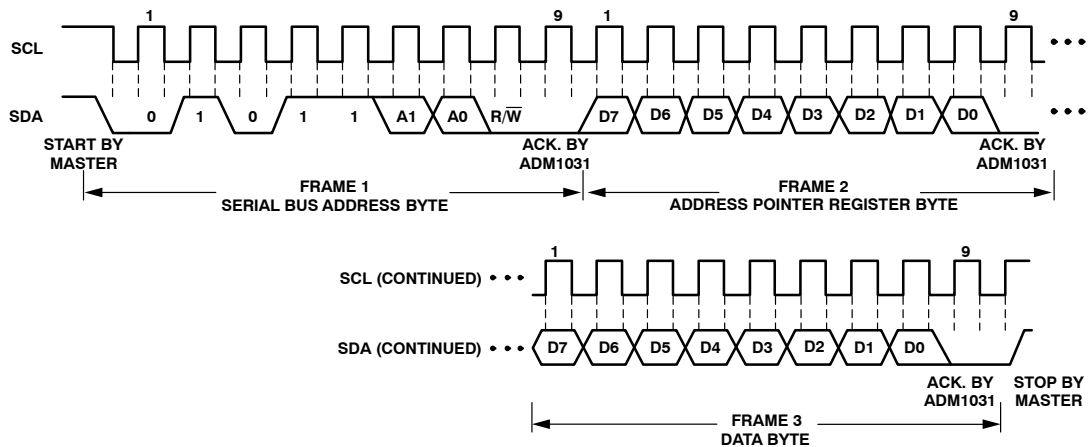
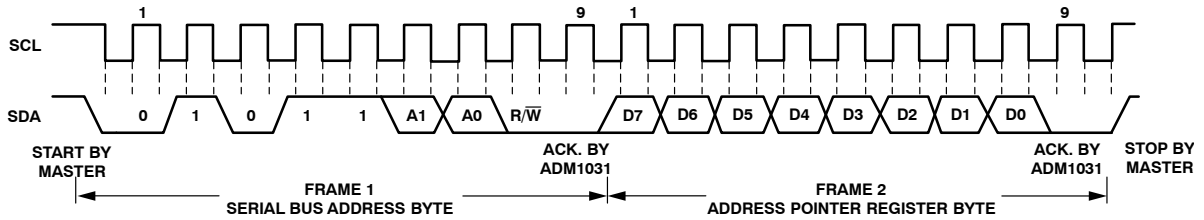
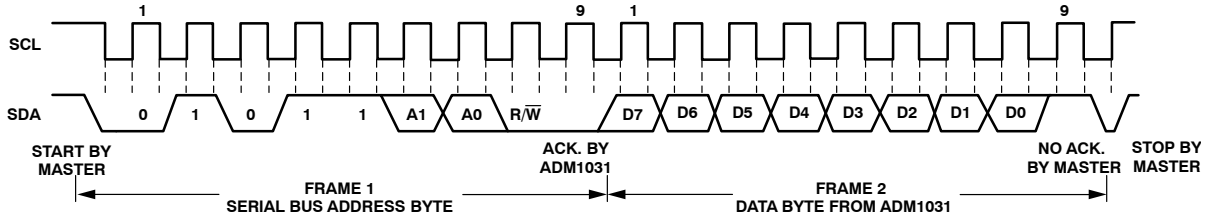

Figure 15. Writing a Register Address to the Address Pointer Register, then Writing Data to the Selected Register
Figure 16. Writing to the Address Pointer Register Only
Figure 17. Reading Data from a Previously Selected Register
This is illustrated in Figure 15. The device address is sent over the bus followed by R/W set to 0. This is followed by two data bytes. The first data byte is the address of the
- If the ADM1031’s address pointer register value is unknown or not the desired value, it is first necessary to set it to the correct value before data can be read from the desired data register. This is done by performing a write to the ADM1031 as before, but only the data byte containing the register address is sent, as data is not to be written to the register. This is shown in Figure 16. A read operation is then performed consisting of the serial bus address, R/W bit set to 1, followed by the data byte read from the data register. This is shown in Figure 17.
- If the address pointer register is known to be already at the desired address, data can be read from the corresponding data register without first writing to the address pointer register, so Figure 16 can be omitted.
- In Figure 15, Figure 16, and Figure 17, the serial bus address is shown as the default value 01011(A1)(A0), where A1 and A0 are set by the three-state ADD pin.